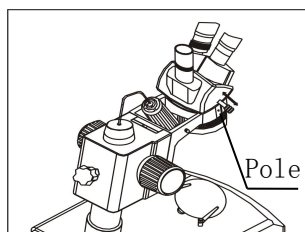

Fig. 7
- 1) You can alternate the binocular and video capture by pushing or pulling “the pole”. You can attain binocular observation by pushing “the pole” inside, or attain video capture by pulling it outside. (Fig. 7)